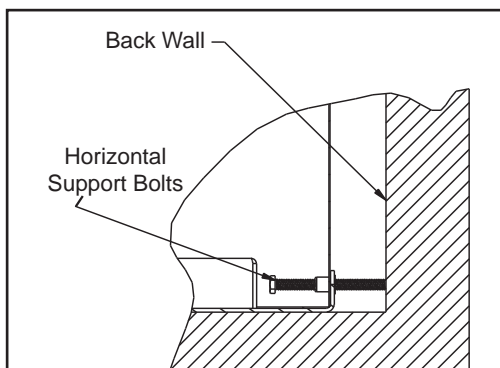

Figure 40.3
3. Thread the horizontal support bolts in until they hit the back wall of the fireplace to help secure in place. **Figure 40.3.**